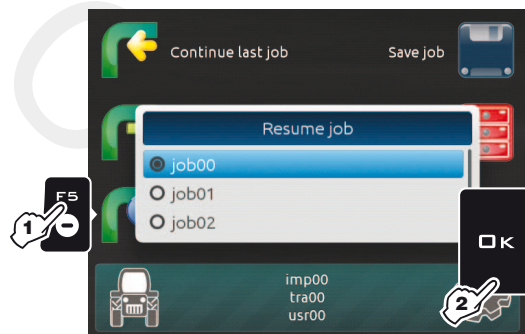

Fig. 312
- 2 In the list, select the desired configuration (Fig. 312) and press **OK** to confirm.